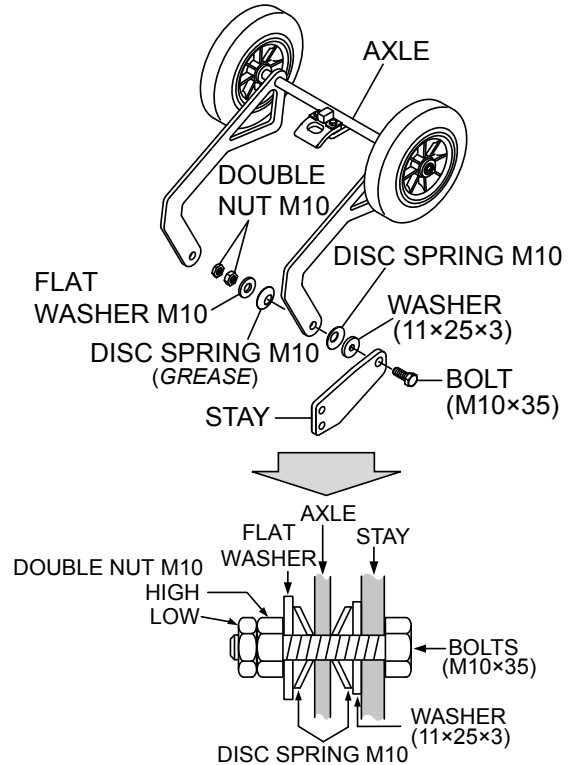

Figure 6. Axle Adjustment
- Loosen both inner and outer M10 nuts (items 9 and 11) on one side of the axle. See Figure 6.